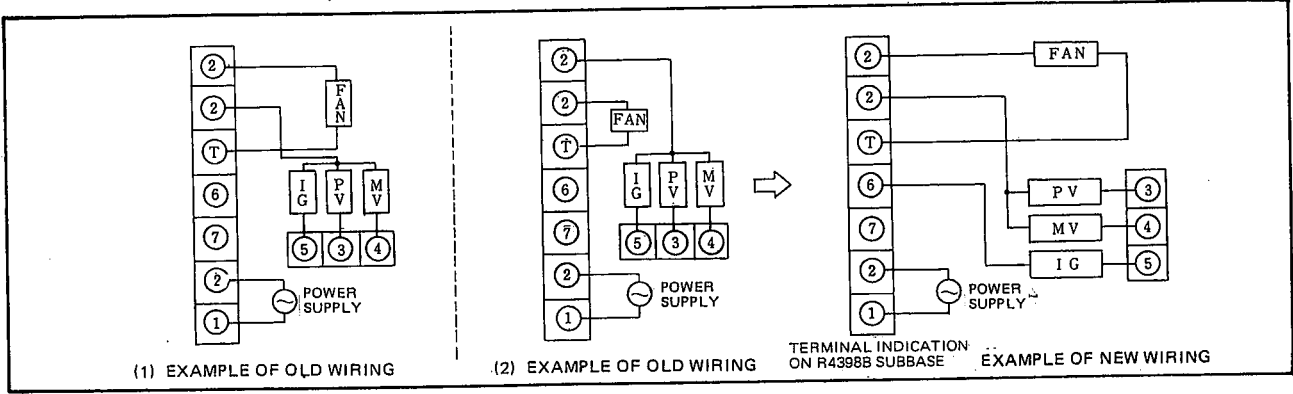

Fig. 6 Method of changing over wiring (when using R4398B subbase)
- (1) Remove R4398B from the subbase.
- (2) Sometimes, in the case of a 200 VAC type R4398B, a green capacitor is connected between terminals ② and ⑥ of the subbase. If there is such a capacitor, remove it.
- (3) Confirm that the wiring to the subbase is either (1) or (2) shown in Fig. 6.
- If the wiring is as shown in (1), leave it as it is.
- If the wiring is as shown in (2), change it over to the configuration in the drawing at right indicated by the arrow.
- (4) Plug the R4750B into the subbase, then tighten the cover retaining screws. This completes the change-over work.